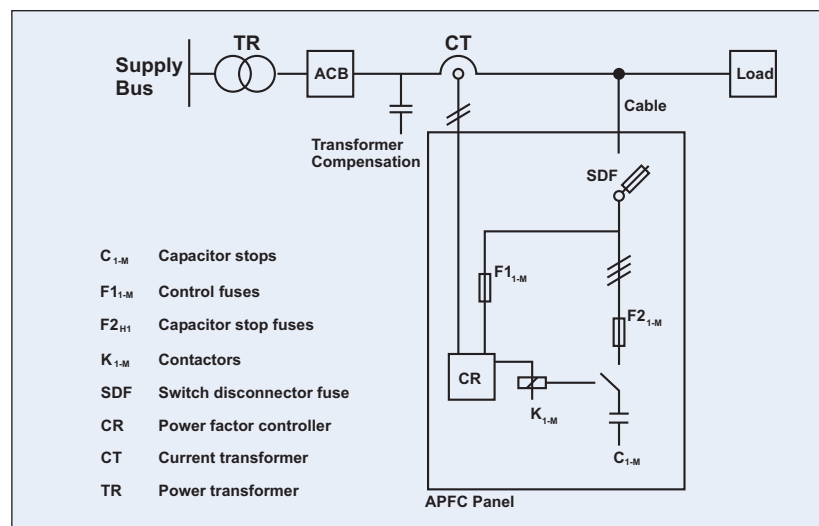

Fig. No.1
5. Check whether the APFC installed in the installation is working or not. Check the CT connection is taken from the main incomer side of transformer, after the fix compensation of transformer. Refer Fig. No.1
4. Note that APFC panel can maintain the power factor on L.T side of transformer and it is necessary to provide fix compensation for Power transformer **Refer Fig No-1**